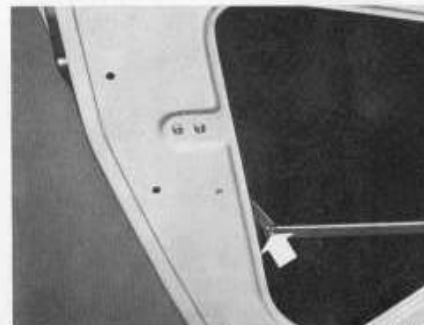
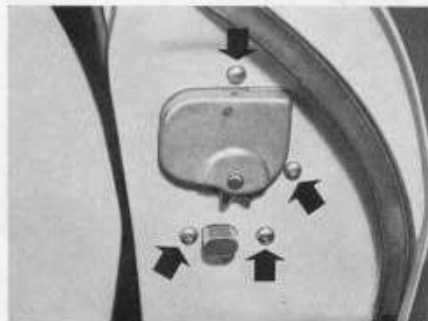

Fig. 12. Clip for lock lever.
Fig. 14. Attaching screws for door lock.
1. Remove the clip for the lever, see Fig. 12.
4. Unscrew the screws in the door edge (Fig. 14) and the screws shown in Fig. 12 for the joint for the lower link arm of the lock.